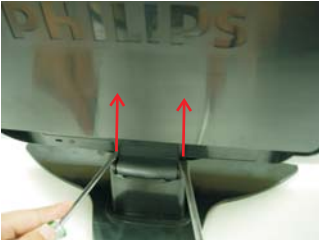

Fig.3
- Use two thin " | " screw drivers to drive upon the cover simultaneously as shown in Fig.3